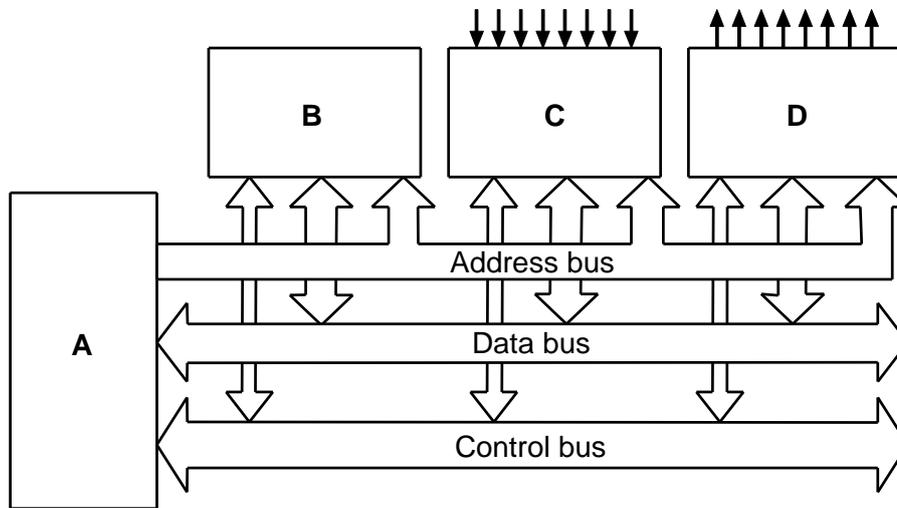

Figure Q2
2. The diagram in Figure Q2 shows the basic architecture of a microcontroller. Some elements have been labelled with the letters A, B, C and D.
- (a) State the names of the elements labelled A, B, C and D in Figure Q2.
- (b) With reference to Figure Q2, state which **one** of the following three statements correctly describes the nature of the data flow on the **data bus** in a microcontroller.